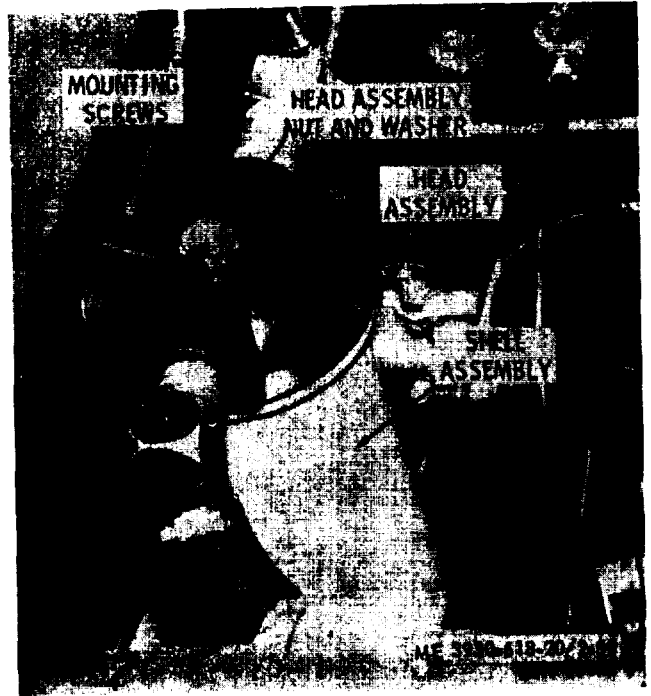

Figure 2.50. Micrin-type hydraulic fluid filter. installed view.
a. Removal. Refer to figure 2-50 and proceed as follows :
- (1) Remove the seat and seat support.
- (2) Separate the shell assembly from the head assembly.
- (3) Remove the element, from the shell assembly.